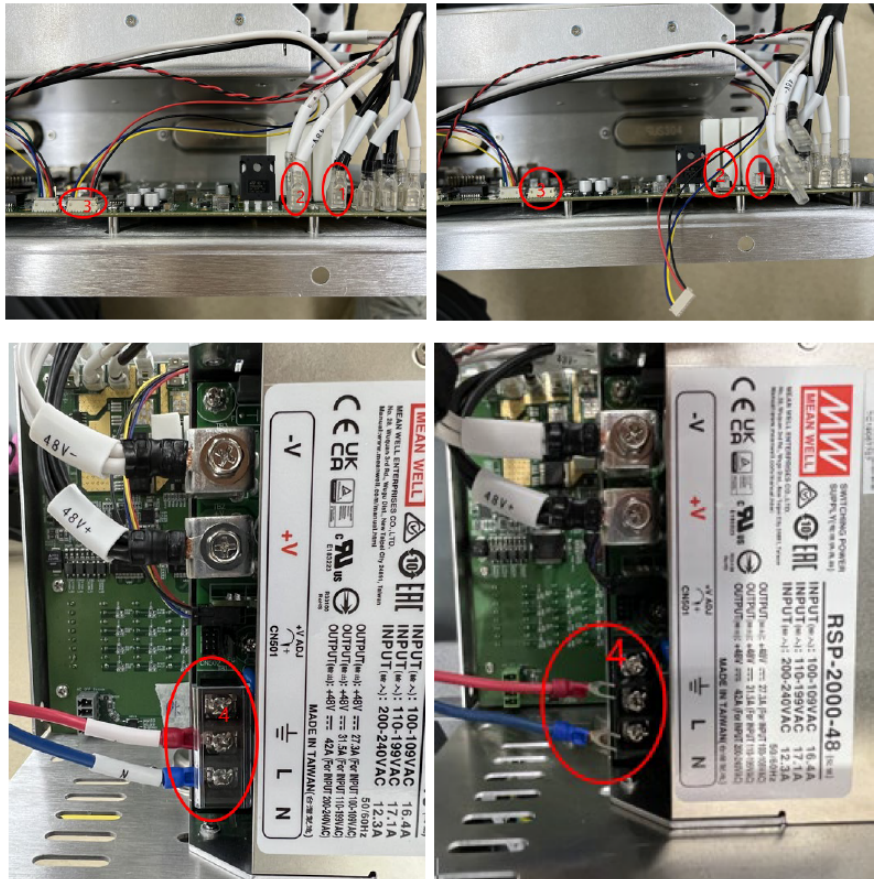

Figure 3-25 : The connect position of the power cable on the controller
4. Disconnect the connecting cable from the switching power supply to the controller, as shown in **Figure 3-25** ;